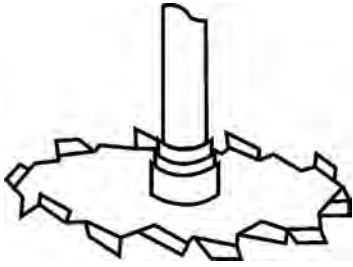

FIGURE 6.6 Flat plate impeller with sawtooth edges.
- Flat plate impellers with sawtooth edges are suited to emulsification and dispersion. Since the shearing action is localized, baffles are not required. Figure 6.6 illustrates the design.